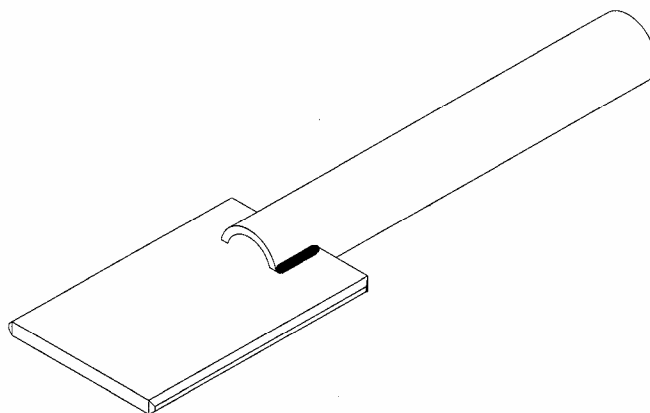

Figure 7 – RST Coupling Tool
3. Slide the RST repair coupling onto the casing and align the grooves using the RST Coupling Tool (Figure 7). Allow the cement to cure, according to the directions on the label.